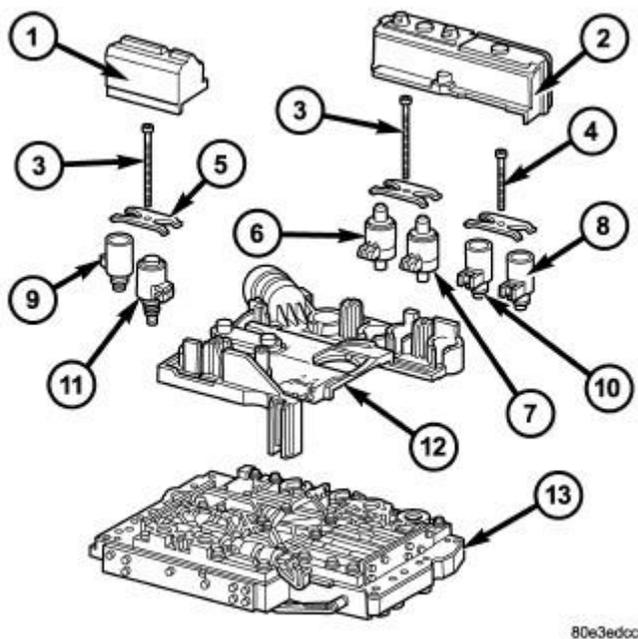

Fig. 218: Electrohydraulic Control Unit Components
The electrohydraulic control unit comprises the shift plate (13) made from light alloy for the hydraulic control and an electrical control unit (12). Refer to **Fig. 218**. The electrical control unit (12) comprises of a supporting body made of plastic, into which the electrical components (1 - 11) are assembled. The supporting body is mounted on the shift plate (13) and screwed to it.